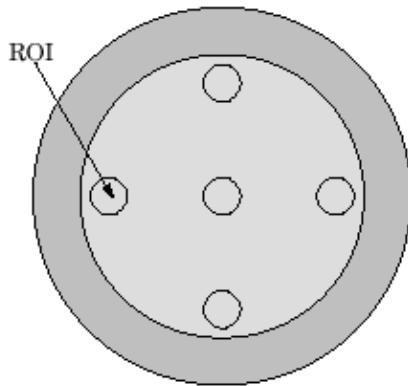

Figure 46: ROI Placement for Uniformity Measurements
3. Measure the **Mean** value of each homogenous substance of the Catphan Phantom by placing the ROI on each of the outlined regions as in Figure 46.